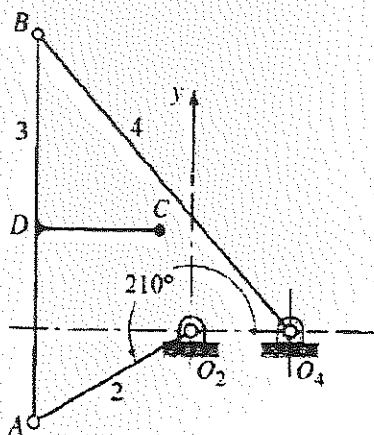

Figure 1
- (b) Find the inflection circle for motion of the coupler relative to the frame for the four-bar mechanism shown in Figure 1. Also find the center of curvature of the coupler curve point C. $O_2A = 150\text{mm}$, $O_2O_4 = 75\text{mm}$, $AD = 150\text{mm}$, $CD = 100\text{mm}$, $AB = O_4B = 300\text{mm}$.